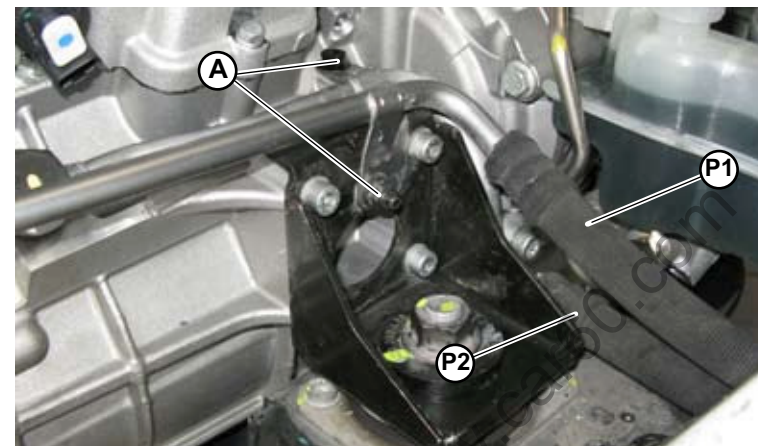

Fig.9
2. Loosen the screws (B-Fig.9) fastening the rear P1 and P2 pipe mounting brackets to the gearbox support.